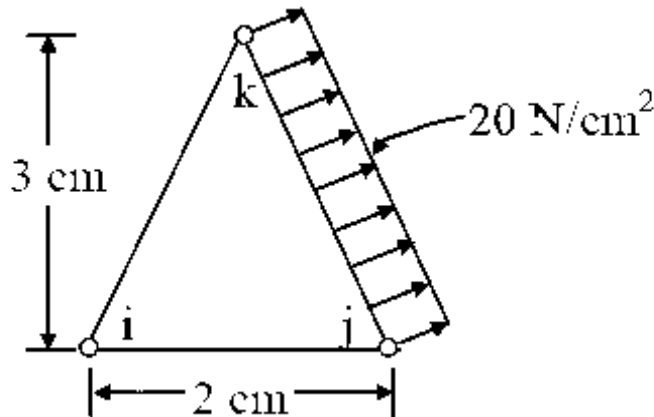

Fig.1
6. Determine the element equations for the plane stress element shown in Fig.1. The element has a 20 N/cm^2 load acting perpendicular to side jk and is subjected to a 15°C temperature rise. Thickness of the element = 2 cm ; $E = 6 \times 10^6 \text{ N/cm}^2$ $\alpha = 7 \times 10^{-6} \text{ cm/cm } ^\circ\text{C}$; $\mu = 0.25$ (15M)